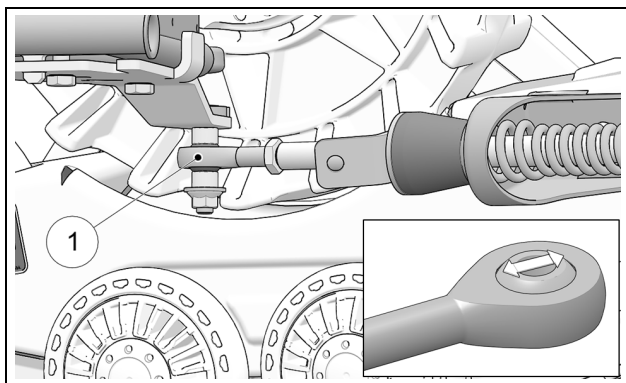

Figure 37
Verify wear on Stabilizing Arm ball joint (1) to make sure that it is not seized or too loose. Figure 37.